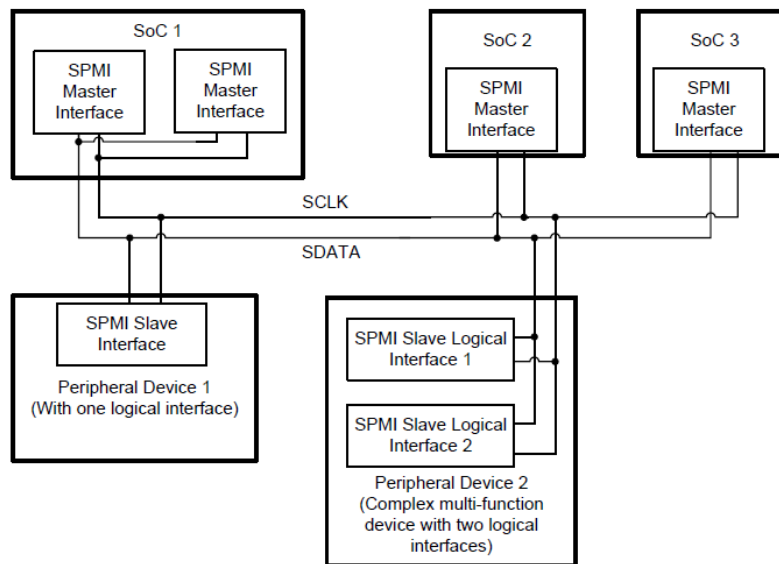

Figure 3-264 SPMI System Example
The SPMI is a two-wire serial interface that connects the integrated Power Control (PC) of a SoC processor system with one or more PMIC voltage regulation systems. Figure 3-264 shows an example SPMI system.